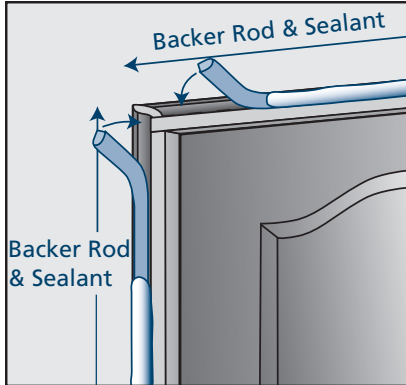

Fig. 31
- On the exterior, apply a continuous sealant joint between the frame and the rough opening at the jambs and header using backer rod and sealant (**Fig. 31**).